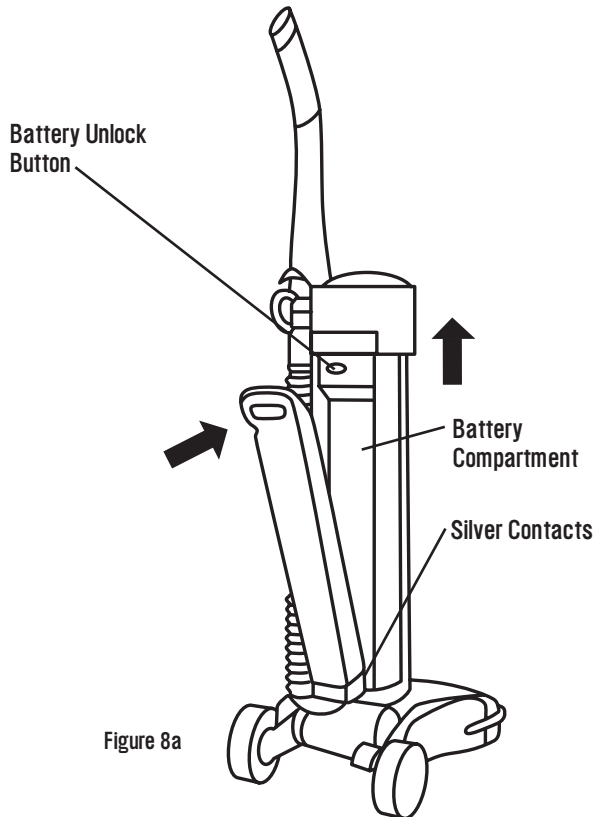

Figure 8a
2. Swing the Battery Pack forward, towards the Vacuum Cleaner. (See Figure 8a.)